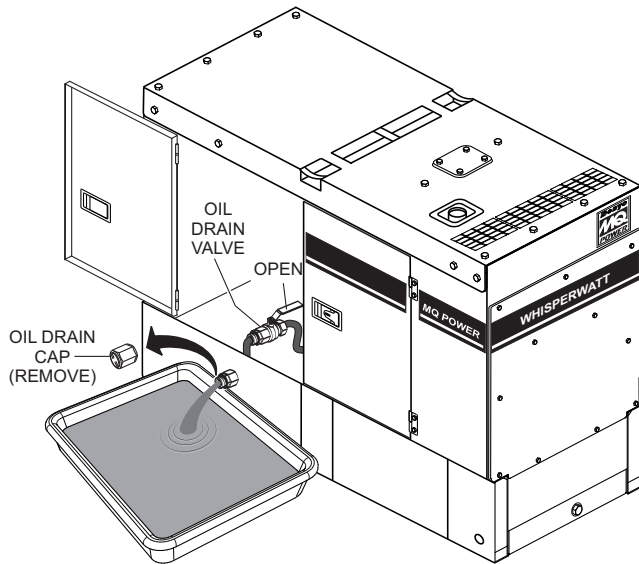

Figure 127. Draining The Engine Oil
4. Remove the **oil drain cap** (Figure 127).
5. Place the **oil drain valve** in the open position (Figure 127) and allow the oil to drain into a suitable container.